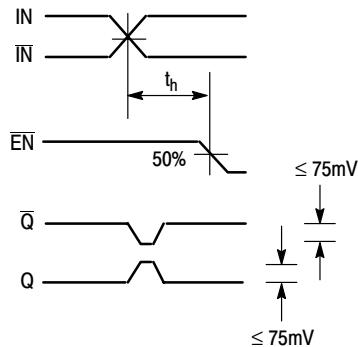

Figure 4. Hold Time
19. The hold time is the minimum time that  $\overline{\text{EN}}$  must remain asserted after a negative going IN or a positive going  $\overline{\text{IN}}$  to prevent an output response greater than  $\pm 75\text{ mV}$  to that IN/ $\overline{\text{IN}}$  transition (see Figure 4).